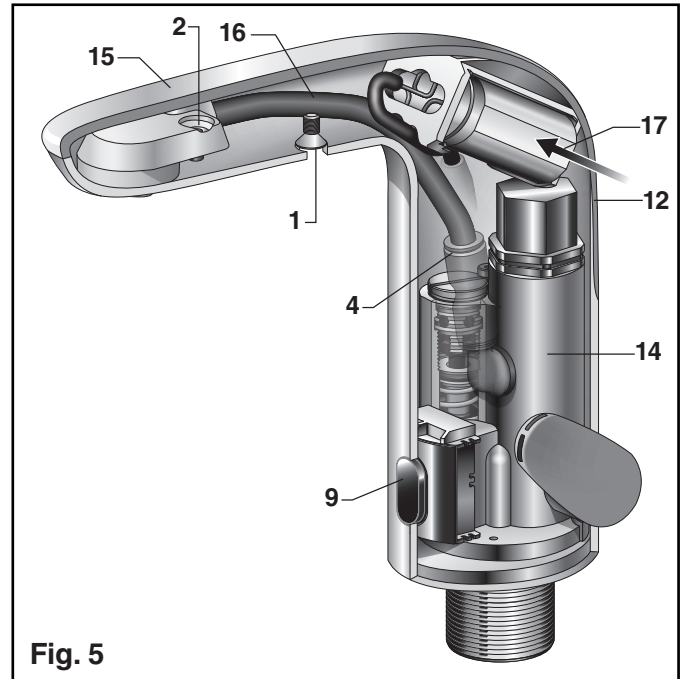

Fig. 5
E INSTALL OPTIONAL MIXING VALVE; Fig. 5
Note: An optional Thermostatic Mixing Valve (sold separately) may be installed on faucets 775X.1XX & 775X.2XX in addition to Above Deck Mixing valve. See setup diagram Fig. 5.
B REPLACE BATTERY; Fig. 5, 6
3. Push BATTERY (17) forward and Pull it out. (Fig. 5)
C CHANGE SENSOR RANGE; Fig. 5, 6